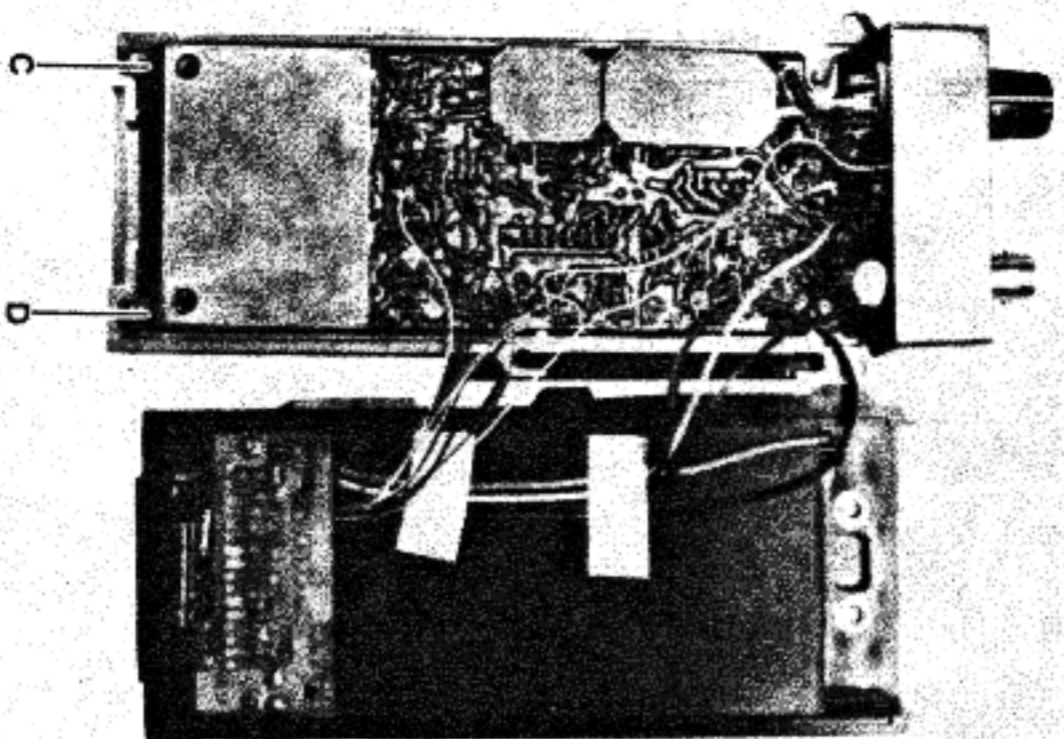

Figure 2
- (2) Remove screws C and D in Fig. 2. The front panel may now be carefully removed. Be certain not to put undue strain on the interconnection wires.